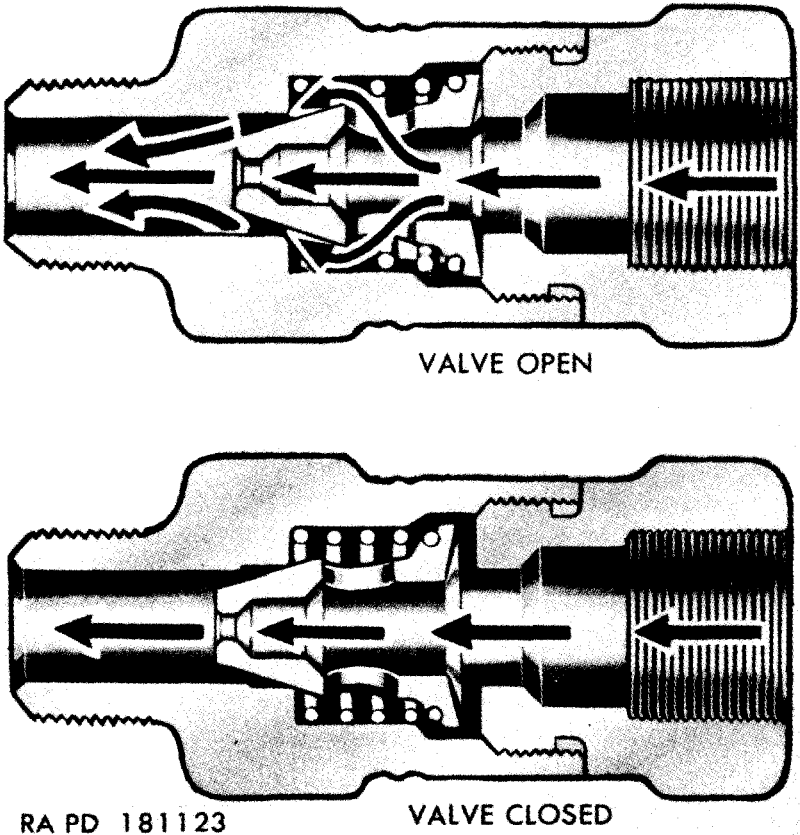

Figure 112. Sectional view of ventilating system metering valve.
- (1) At high engine speeds, the air in the engine ventilating system is moving at a relatively high velocity, a condition which causes the metering valve (fig. 112) to be pulled forward against the seat in the metering valve body. As long as high engine speed and high air velocity is maintained, the valve